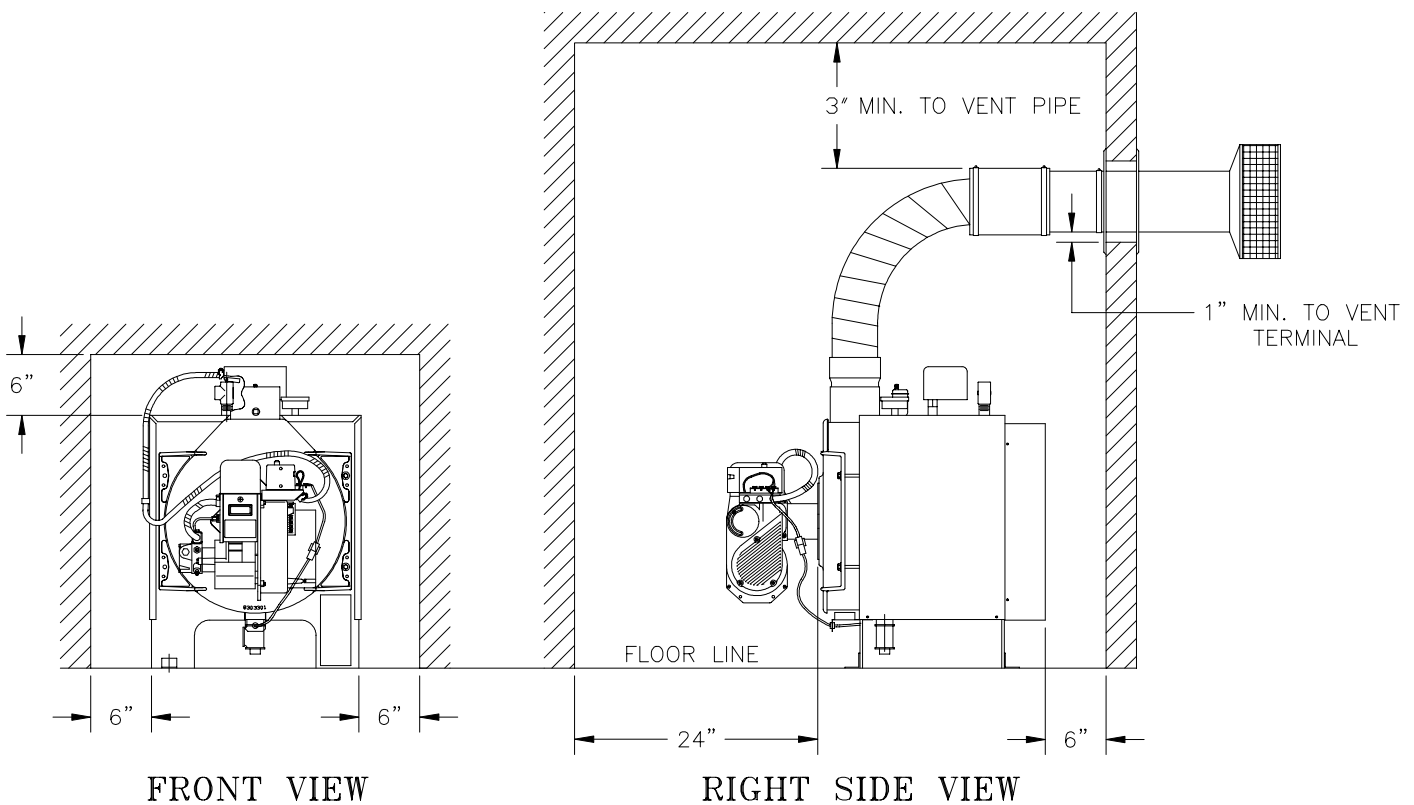

Figure 2: Minimum Clearances to Combustible Materials
5. For minimum clearances to combustible materials, see Figure 2.
3. For minimum clearances to combustibles materials refer to Figure 2.